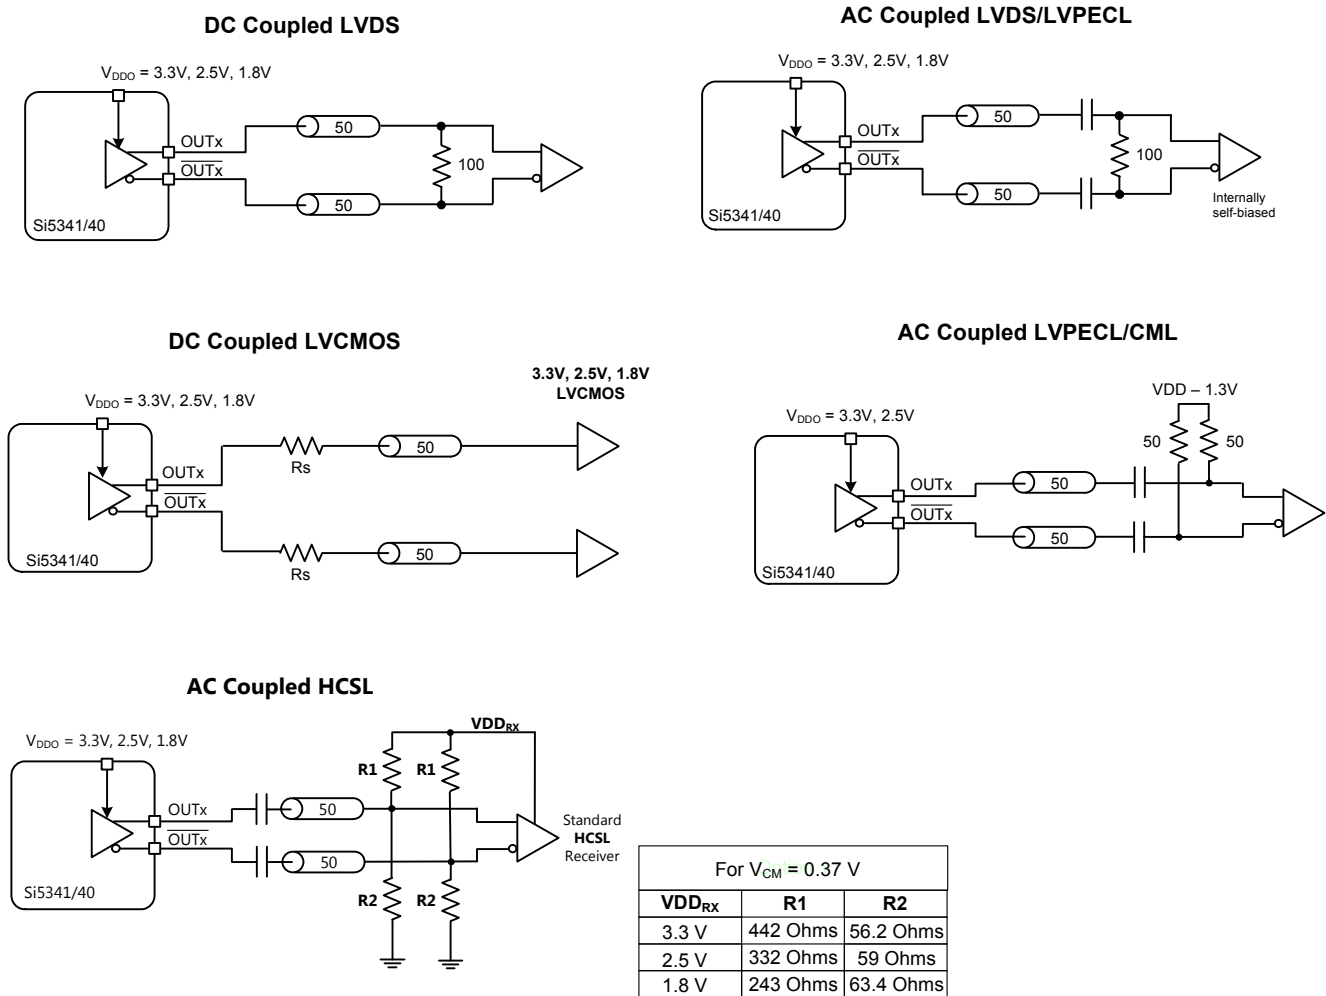

Figure 14. Supported Differential Output Terminations
The differential output drivers support both ac-coupled and dc-coupled terminations as shown in Figure 14.
- **Differential Normal Mode:** When an output driver is configured in normal mode, its output amplitude is selectable as one of 7 settings ranging from ~130 mVpp_{se} to ~920 mVpp_{se} in increments of ~100 mV. See Appendix A for additional information. The output impedance in the normal mode is 100 Ω differential. Any of the terminations shown in Figure 14 are supported in this mode.
- **Differential Low Power Mode:** When an output driver is configured in low power mode, its output amplitude is configurable as one of 7 settings ranging from ~200 mVpp_{se} to ~1600 mVpp_{se} in increments of ~200 mV. When in Differential Low Power Mode, the output impedance of the driver is much greater than 100 Ω , however the signal integrity will still be optimum as long as the differential clock traces are properly terminated in their characteristic impedance. Any of the terminations shown in Figure 14 are supported in this mode.